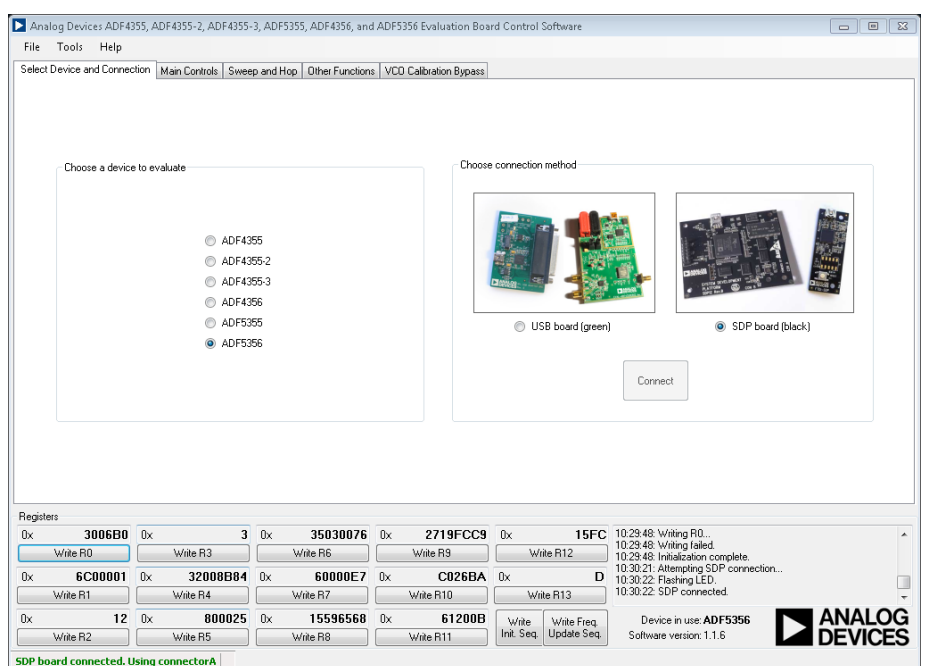

Figure 2. Software Front Panel Display—Select Device and Connection
2. On the **Select Device and Connection** tab, click **ADF5356** and **SDP board (black)**, and then click **Connect** (see Figure 2).
8. Select ADF5356 and SDP board (black) in the **Select Device and Connection** tab of the software front panel display window (see Figure 2).